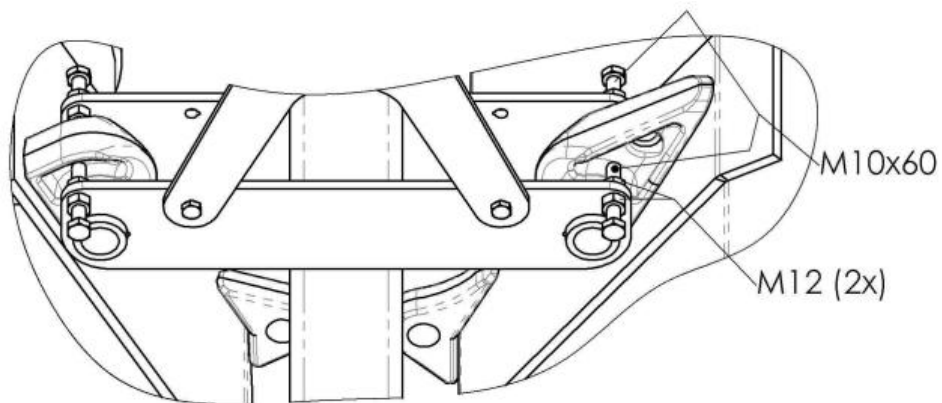

Fig. 5 - Securing the front loader tools
- d. The suspended tool must be additionally secured against accidental lifting and falling (Figure 5). There are two screws per hook for just this purpose, which are inserted on both sides into the slots of each hook and secured with lock nuts. So the inclination of the tool can still be changed, but it stops the hook shaft from being lifted. The tool may not under any circumstances remain on the tool rack without this safeguard. Tools that have hooks without the corresponding slots may not be used.